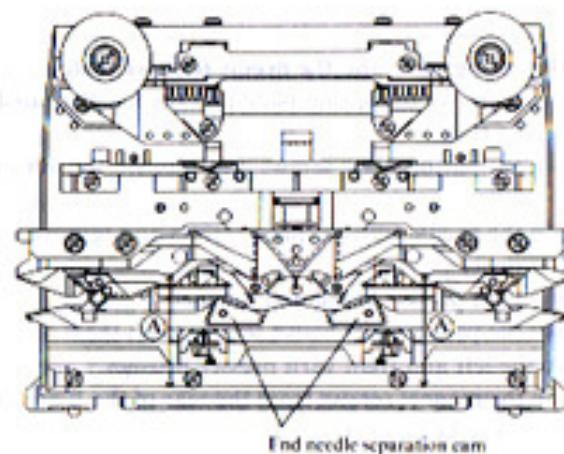

Fig. 13-6
- 3.1 After Mounted the Rear foot and the Main cam, adjust the dimension (A) in Fig. 13-6 (between Both inner faces of cam) within 45.2 m/m ± 0.1 m/m, and tighten the two screws of the Main cam.
- 3.2 Mount the end needle separation cam (right and left) and tighten them from front side with screws (3.18 × 12 with washer), while pushing them toward "arrow" direction (Refer to Fig. 13-6).